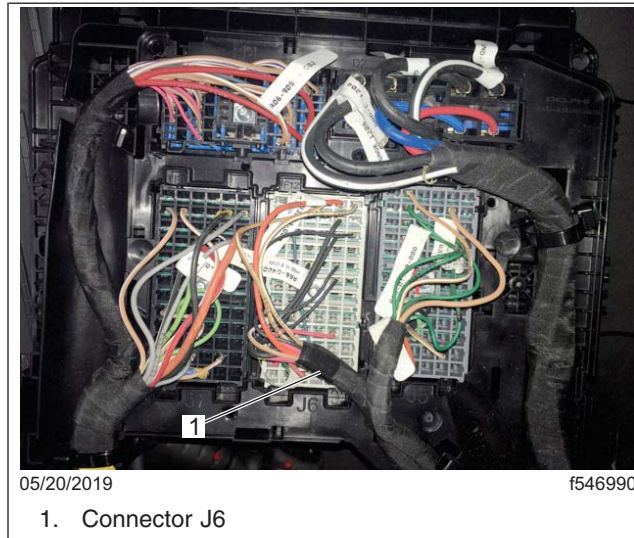

Fig. 12, VPDM Connectors
- 16.2 Locate and remove VPDM connector J6 by loosening the captured screw from the front of the VPDM and removing the connector from the back of the VPDM. See Fig. 12.